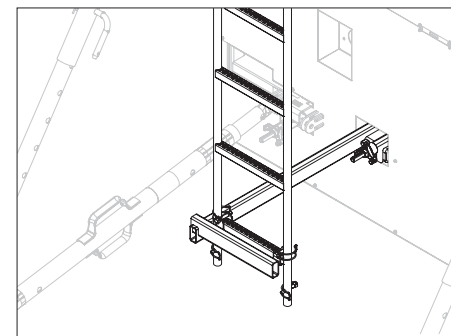

Fig. B5.10
5. Attach the Ladder to the mounting bracket (53.1) of the Hatch and simultaneously in the Ladder Connector. (Fig. B5.10)